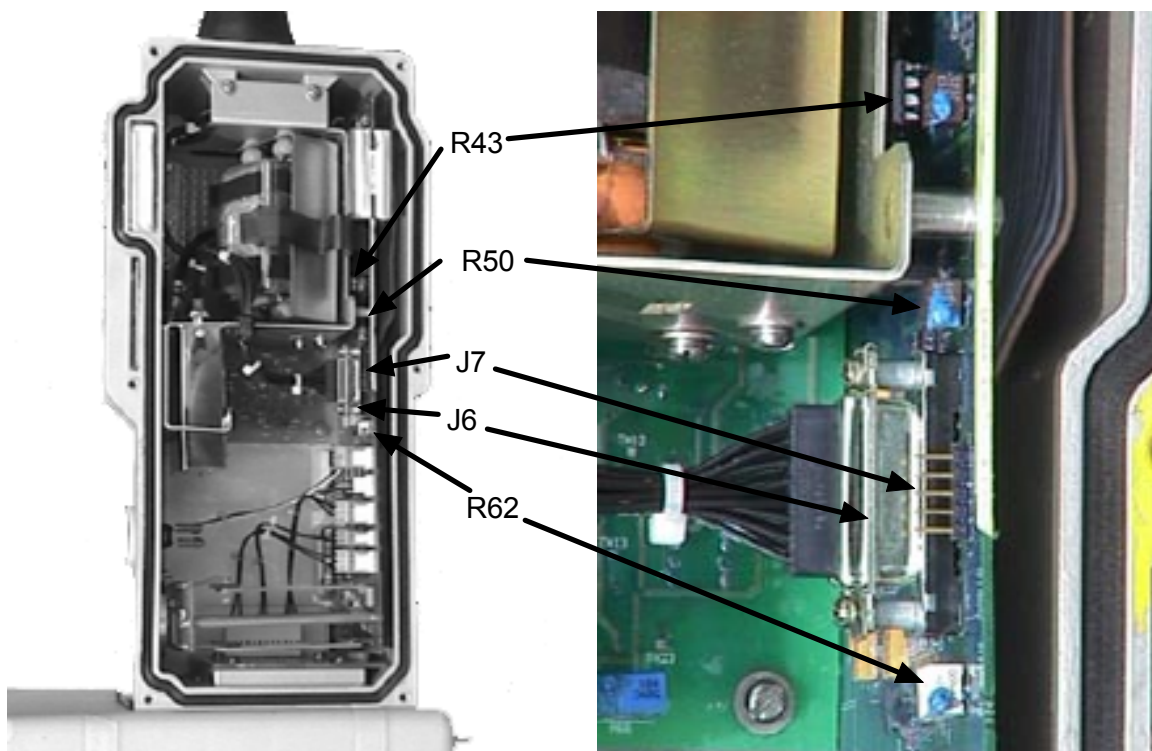

Figure 2-7 - Component Locations on SBU Processor Board
**Note:** See Figure 2-7 for location of J7 and adjustment trimpots on the SBU Processor Board.